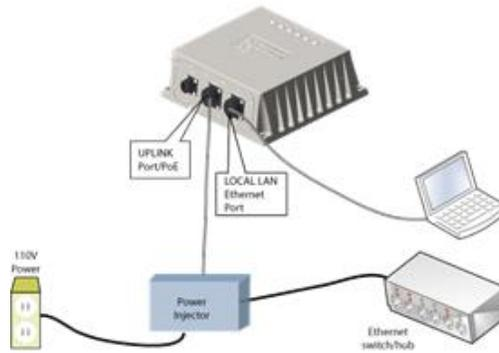

Figure 14: 3e-525N Quick Setup
Figure 14 shows the connections of 3e-525N installation. The UPLINK port is used to connect the unit to the organization's Local Area Network (LAN). For the 3e-525N, the uplink cable is run from the unit to the power injector. This POE power injector connects to Alternating Current (AC) power and provides a port to connect into the wired network. The Local Management port is used to access and manage the device's web management GUI only.